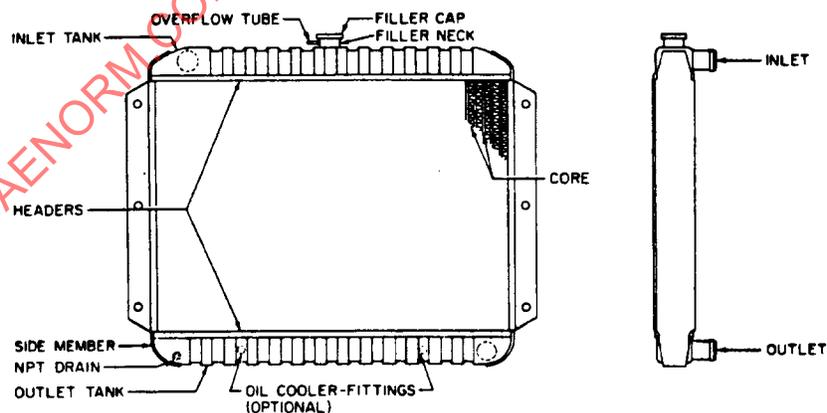

FIGURE 7—AUTOMOBILE RADIATOR (DOWN FLOW)
- 3.18 Downflow Radiator**—A radiator whose core tubes run vertically when installed in the cooling system. See Figure 7.